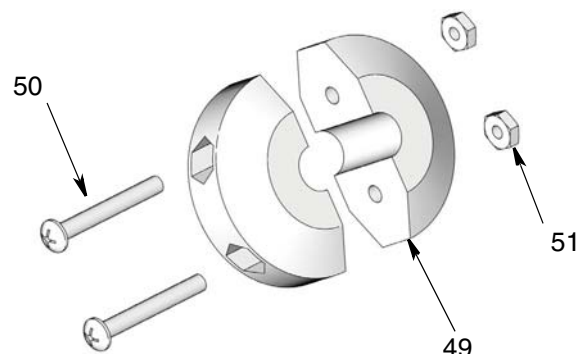

FIG. 4
4. Remove nuts (51) and screws (50) to remove hose stop (49) from end of hose (FIG. 4).